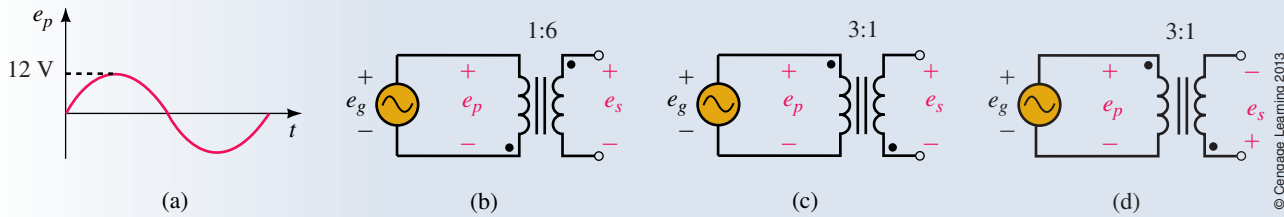

FIGURE 23–14 Waveform (a) is the applied primary voltage.
- If $\mathbf{E}_g = 120 \text{ V} \angle 30^\circ$, determine \mathbf{E}_s for each transformer of Figure 23–14.